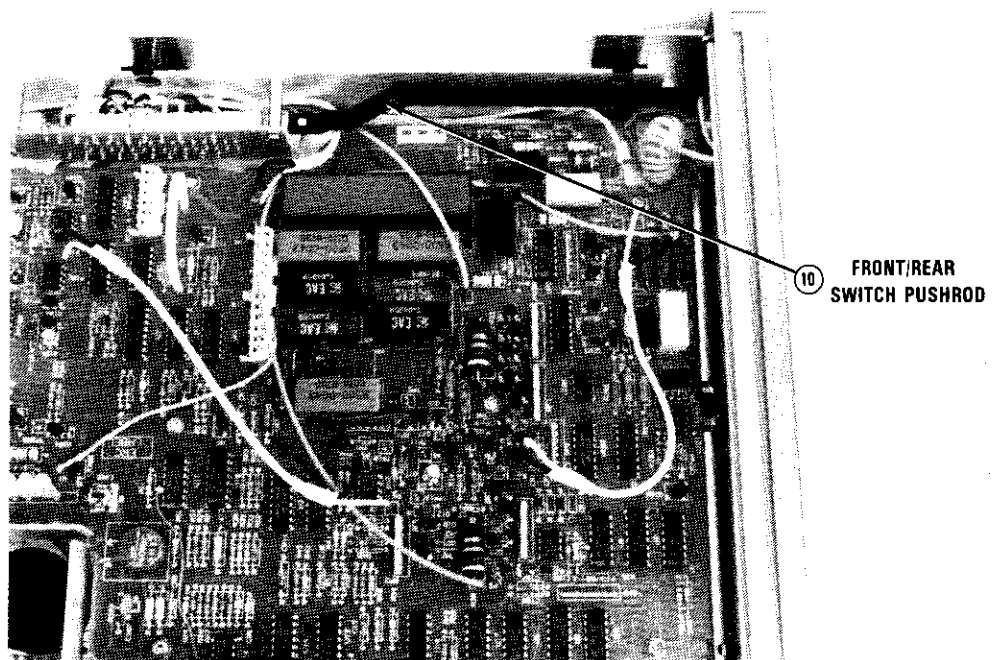

Figure C-8. Front/Rear Terminal Switch And Pushrod Location
3. Refer to Figure C-8. Locate the pushrod for the Front/Rear Terminal switch. Pull the pushrod off. You may need to pry the pushrod loose with a small flat blade screwdriver. Set the switch in the position it is to be used.